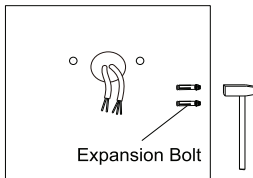

Figure 22
Step 2: Knock the expansion bolts into the wall.(Figure 22)